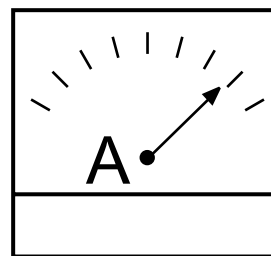

Figure 36. Ammeter (Load)
- Observe the generator's ammeter (Figure 36) and verify it reads the anticipated amount of current with respect to the load. The ammeter will only display a current reading if a load is in use.